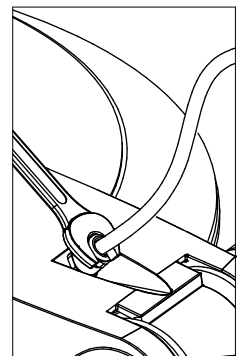

FIG. 4-2A
2. REMOVE AND DISCARD EXISTING STEEL BRAIDED CONDUIT ASSEMBLY ON THE FIXTURE HOUSING AND BALLAST HOUSING SIDE WITH A 11/16 WRENCH. (FIG. 4-2A)/(FIG. 4-2B)